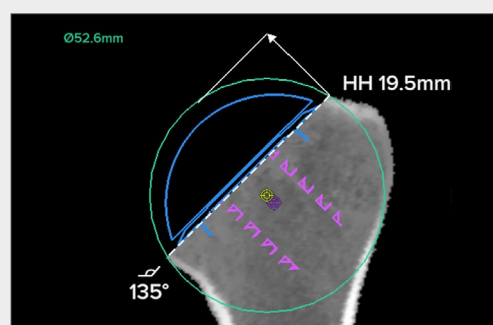

Figure 33. Anatomic and Prosthetic COR
- The humeral head diameter is displayed in the top left of the 2D view and the anatomic circle is dynamically overlaid on the proximal humerus with the anatomic COR denoted by the yellow crosshair and the prosthetic COR denoted by the purple crosshair as seen in Figure 33.